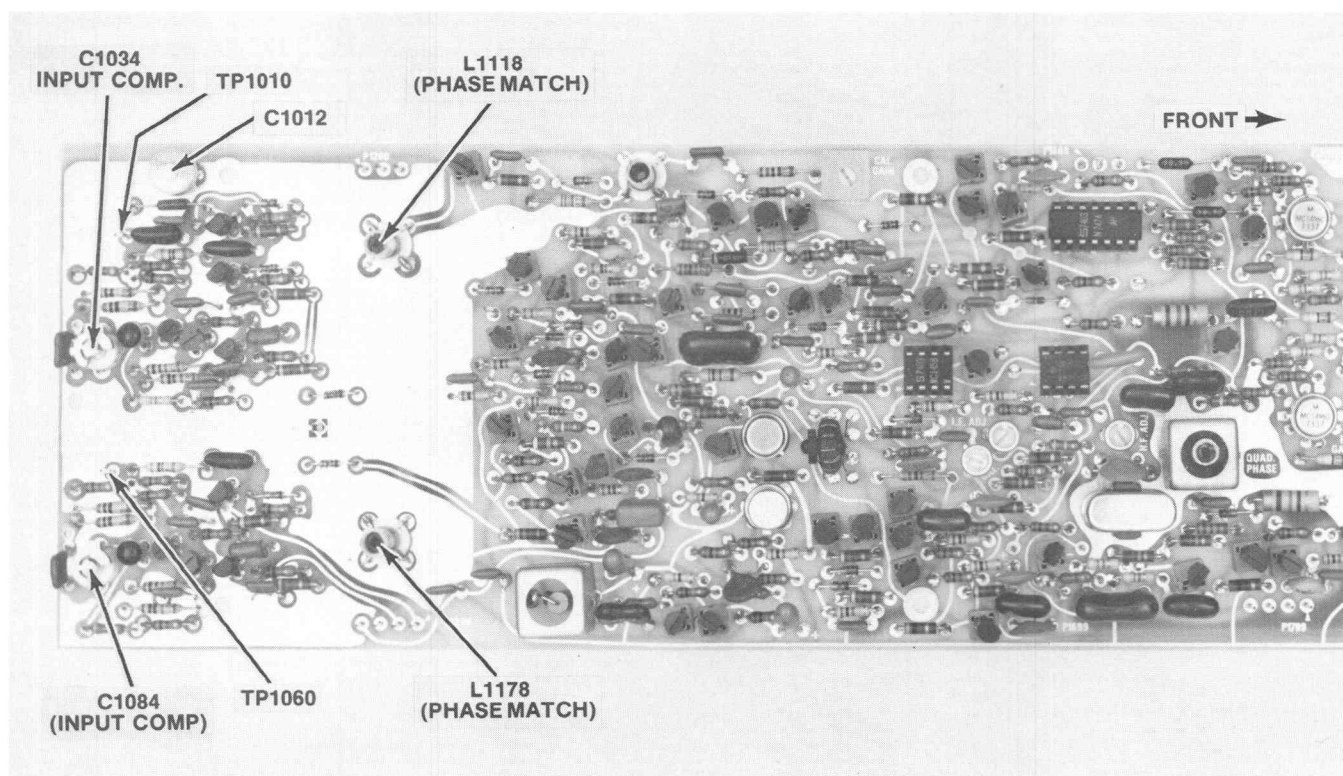

Fig. 3-8. Input amplifier test points and adjustments.
- a. Connect the 10X probe from the Test Oscilloscope to TP1010 on the Demodulator board (see Fig. 3-8).
- d. Move the 10X probe to TP1060 (see Fig. 3-8).